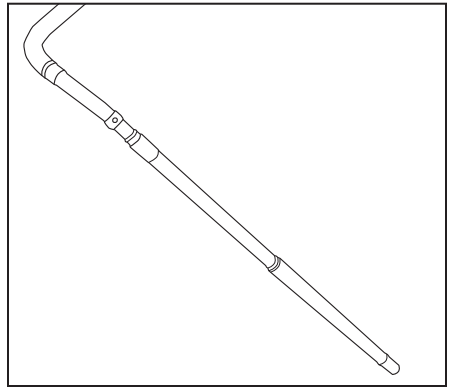

Fig. 4
- Attach the extension wand(s) to the curved handle end of the hose (Fig. 4).
- Attach the extension wand(s) to the curved handle end of the hose (Pg. 7, Fig. 4).